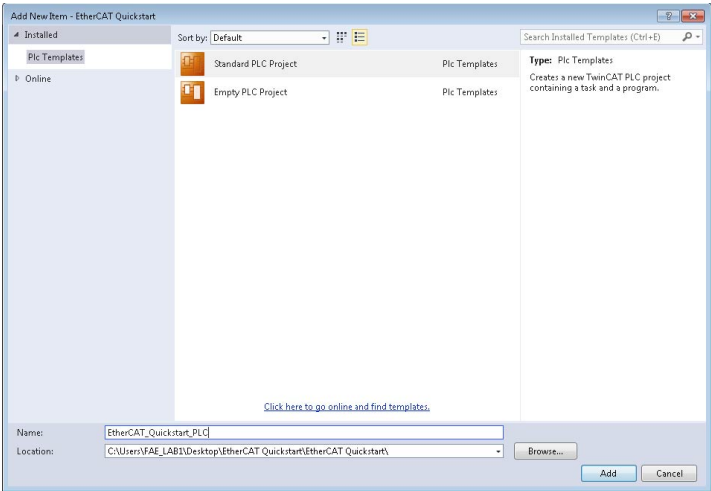
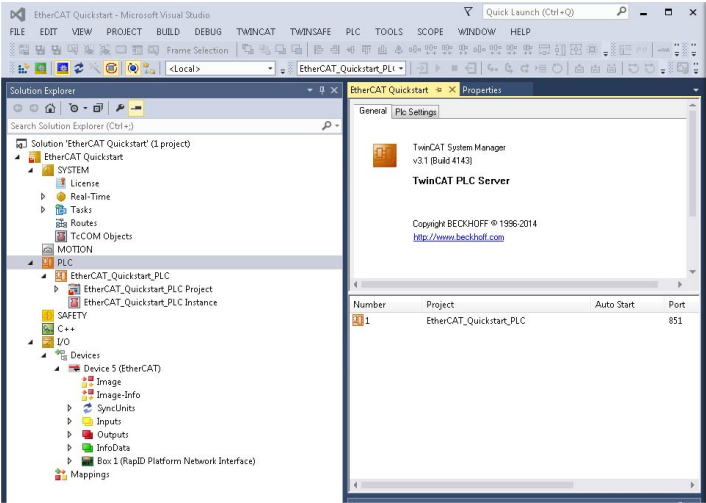

Figure 36. PLC Project Creation
Figure 37. PLC Project Home
2. In the **PLC Project Creation** window that then appears (see Figure 36), select the **Standard PLC Project** and give the project a name. In this example, the item is named **EtherCAT_Quickstart_PLC**. After naming the project, click **Add**. The new project appears on the left-hand side of the **Solution Explorer** pane under the **Solution 'EtherCAT Quickstart' (1 project)** expandable list (see Figure 37).